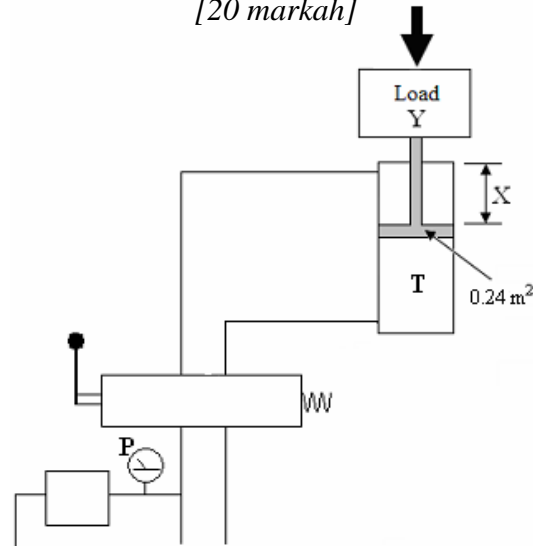

Figure 3
3. Figure 3 shows an incomplete schematic circuit of a hydraulic system, which is used to lift load Y. The piston area is 0.24 m^2 and its displacement of motion X is 16 mm.